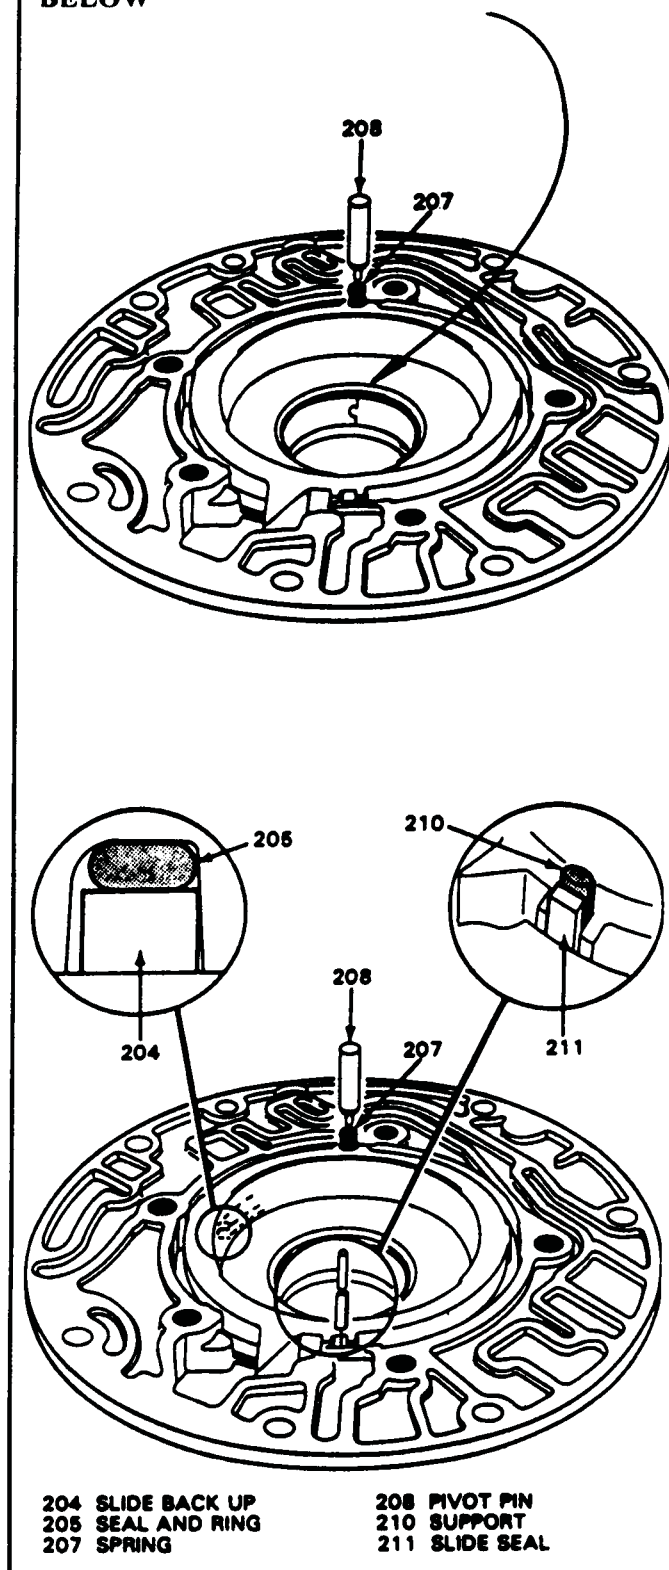

Figure 128
2. *When replacing the pump bushing, orient the the seam of the bushing so that it is pointed at the bolt hole next to the pivot pin as shown in Figure 128.*
6. Install new slide seal support (210) and a new Teflon slide seal onto pump slide, as shown in Figure 128, and retain with "Trans-Jel".
7. Install the pump slide assembly into the pump pocket, being careful not to disturb the slide seals (See Figure 128).
8. Pull the pump slide straight toward the slide seal with one hand, and with the other install the pivot pin and spring (See Figure 128).